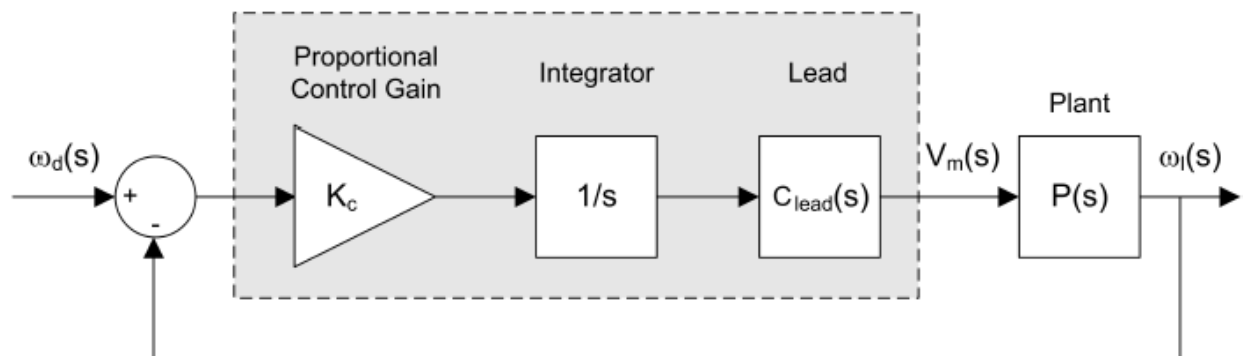
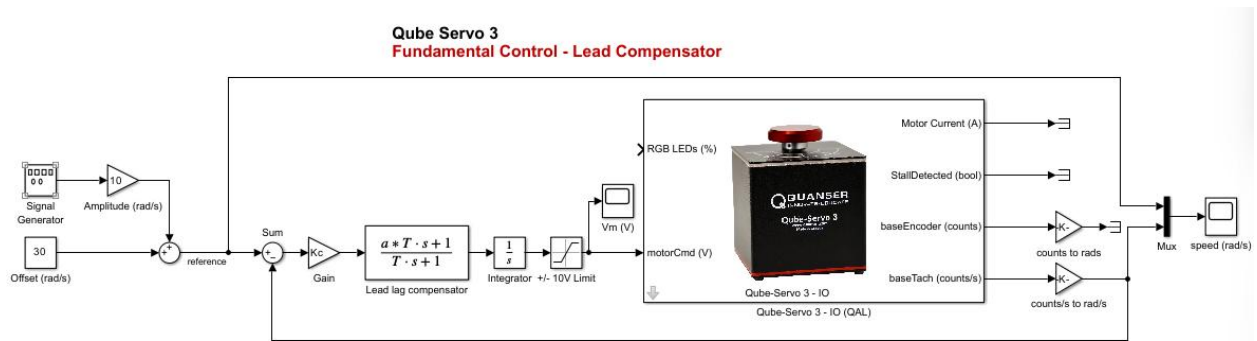

Figure 1: Lead compensator with integrator
Figure 2: Simulink implementation of lead compensator for Qube-Servo 3.
The classic lead compensator given above may not achieve zero steady-state error. To ensure we have zero steady-state error, it is necessary to include an integrator in the controller and so we will use a controller of the form of Figure 1:
The Simulink model shown in Figure 2 implements the lead compensator designed in the previous section for testing on the physical Qube-Servo 3. You will observe that Figure 2 implements the scheme shown in Figure 1.
16. Open the qs3_lead.slx Simulink model, design the Simulink model to be like Figure 2 by inserting and connecting the relevant blocks as in Figure 2.
20. Take a screenshot of Speed (rad/s) and Vm (V) scopes. A sample response using $K_c = 1$ is shown in 3 below: